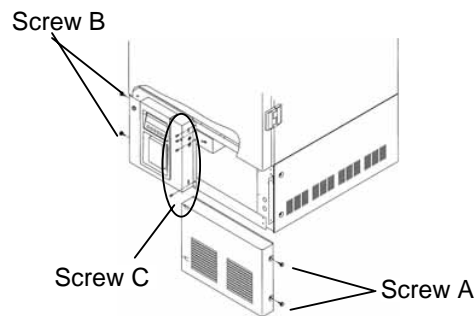

Fig. 2
2) Remove 2 screws (A) fixing the grille to take off the grille. To remove the control panel assembly, remove 2 screws (B) and then remove 4 screws (C) fixing the assembly. (Fig. 2)